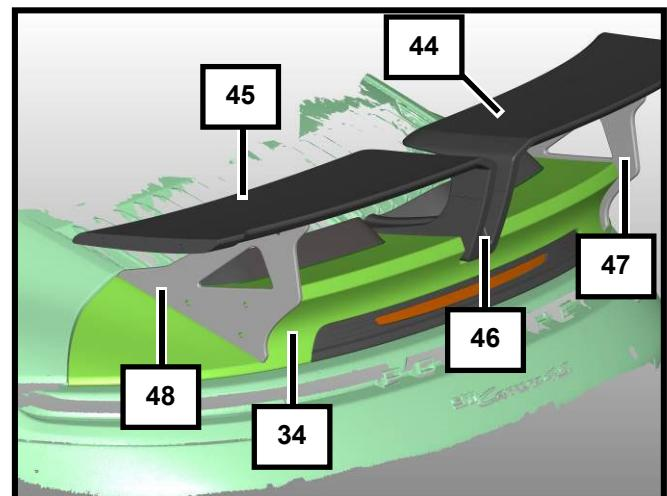

Fig. 61
- 63 Fasten the TECHART base (46) with the screws M8x60 through TECHART base frame (24) to the TECHART bracket base frame center (28), do not tighten, yet.
- 64 Align the TECHART rear spoiler and then tighten all 7 screws M8 (see position: arrows on fig. 61 and 62) using bolt adhesive. Tightening torque = 8 Nm